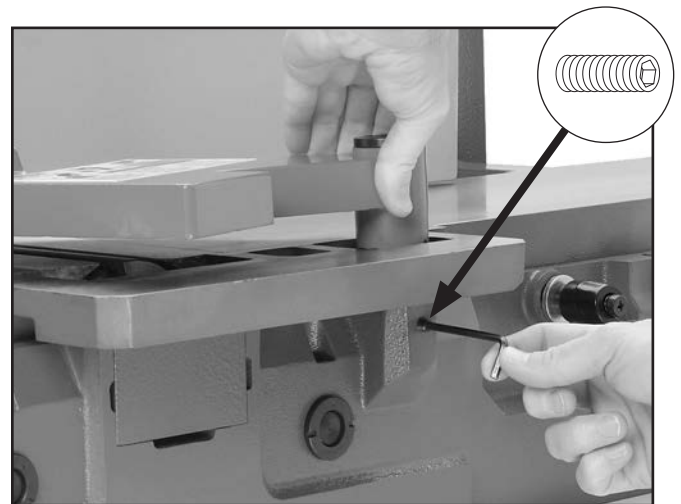

Figure 4. Location of cutterhead guard shaft set screw.
- If cutterhead guard *is not* as low as possible or drags on infeed table/rabbeting extension, loosen set screw securing cutterhead guard shaft, position cutterhead guard until it is approximately $\frac{1}{8}$ " above infeed table, then tighten set screw (see **Figure 4**).